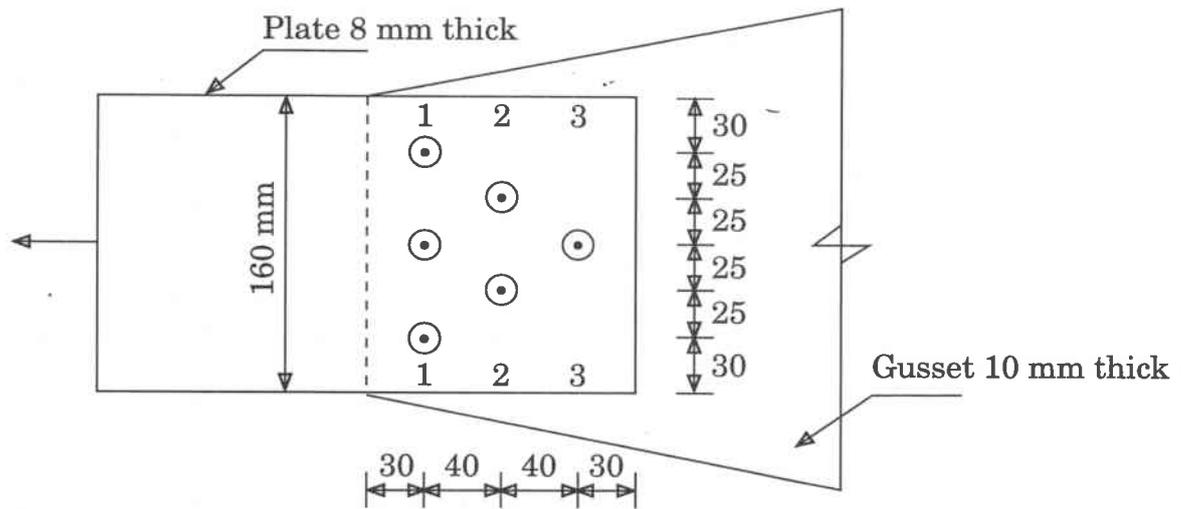

Figure 1(d)
- (e) An overhanging beam  $500 \times 2000$  mm in cross-section is effectively prestressed by 1000 kN prestressing force. Bending moment diagram has been shown in Figure 1(e). Calculate the eccentricities and sketch the prestressing cable profile.